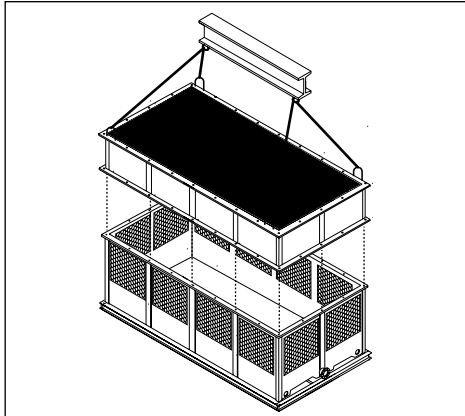

Figure A-18: Lower body installation for a Two Fan Tower (RT-D or RTP-D)
- J. Only if your Tower is an RT-D or RTP-D model:** It includes additional part of body section (Lower Body section). Place Lower Body section on top of basin section, then bolt down and secure the horizontal flanges with the stainless steel nut and bolt sets supplied by REYMSA (see figure A-18).